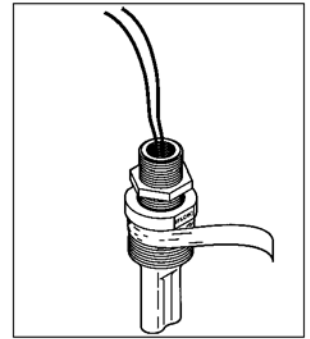

FIGURE 2
4. Apply at least six wraps of pipe tape to threads of sensor. Install nipple and adapter if not already installed (Figure 2).